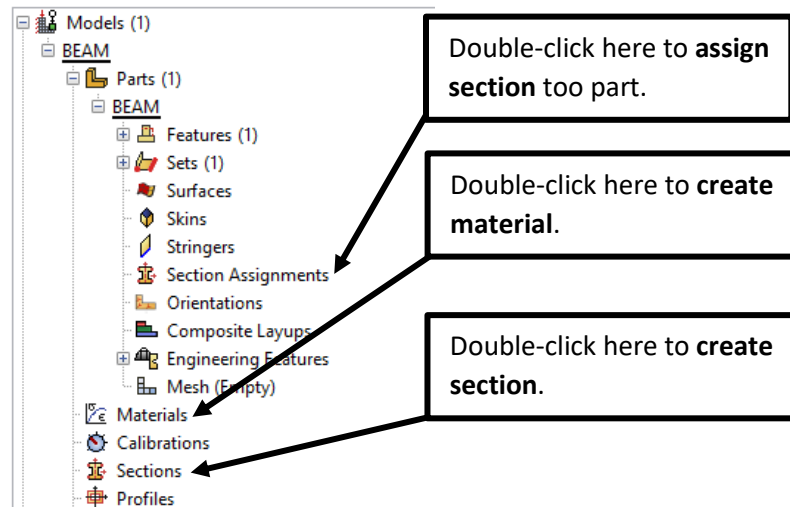

Figure 1-10 – The Model Tree.
1. In the **Model Tree**, double-click **Materials** to create a new material in the model BEAM. See Figure 1-10. Notice that Abaqus/CAE switches to the Property module and the **Edit Material** dialog box appears.
1. In the Model Tree, double-click **Sections** to create a new section in the model BEAM. See Figure 1-10.
1. In the Model Tree, expand the branch for the part **Beam**. Double-click **Section Assignments** to assign a section to the part Beam, as shown in Figure 1-10. Abaqus/CAE displays prompts in the prompt area to guide you through the procedure.